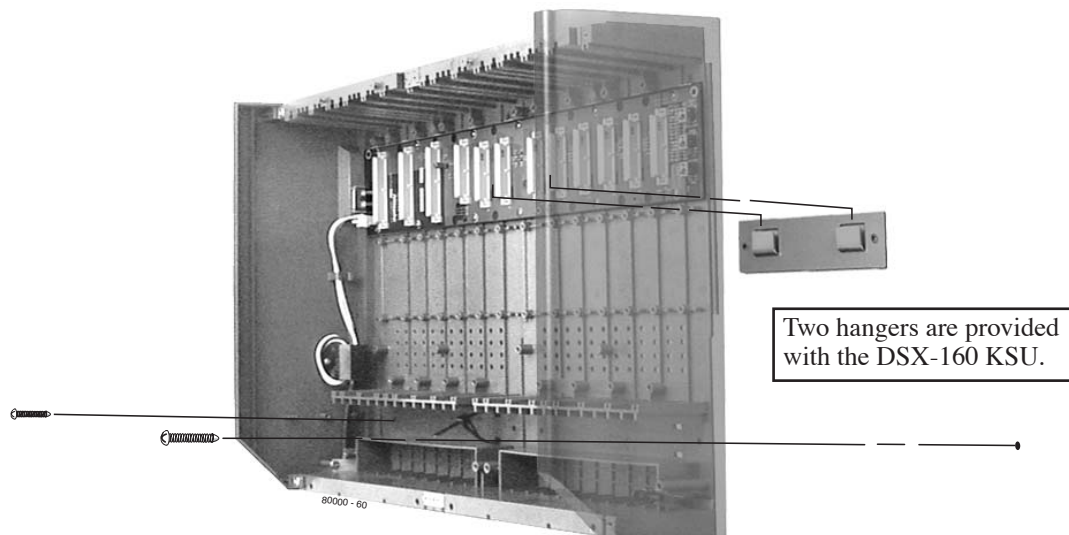

Figure 7: Hanging the DSX-160 8-Slot KSU
- See *Figure 7: Hanging the DSX-160 8-Slot KSU* below when hanging an DSX-160 slot cabinet.